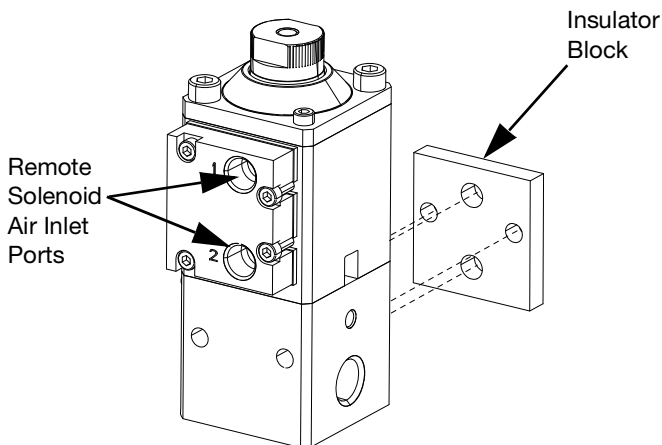

FIG. 7
- b. For valves with a remote mounted Solenoid (J), see the table below. See FIG. 7.